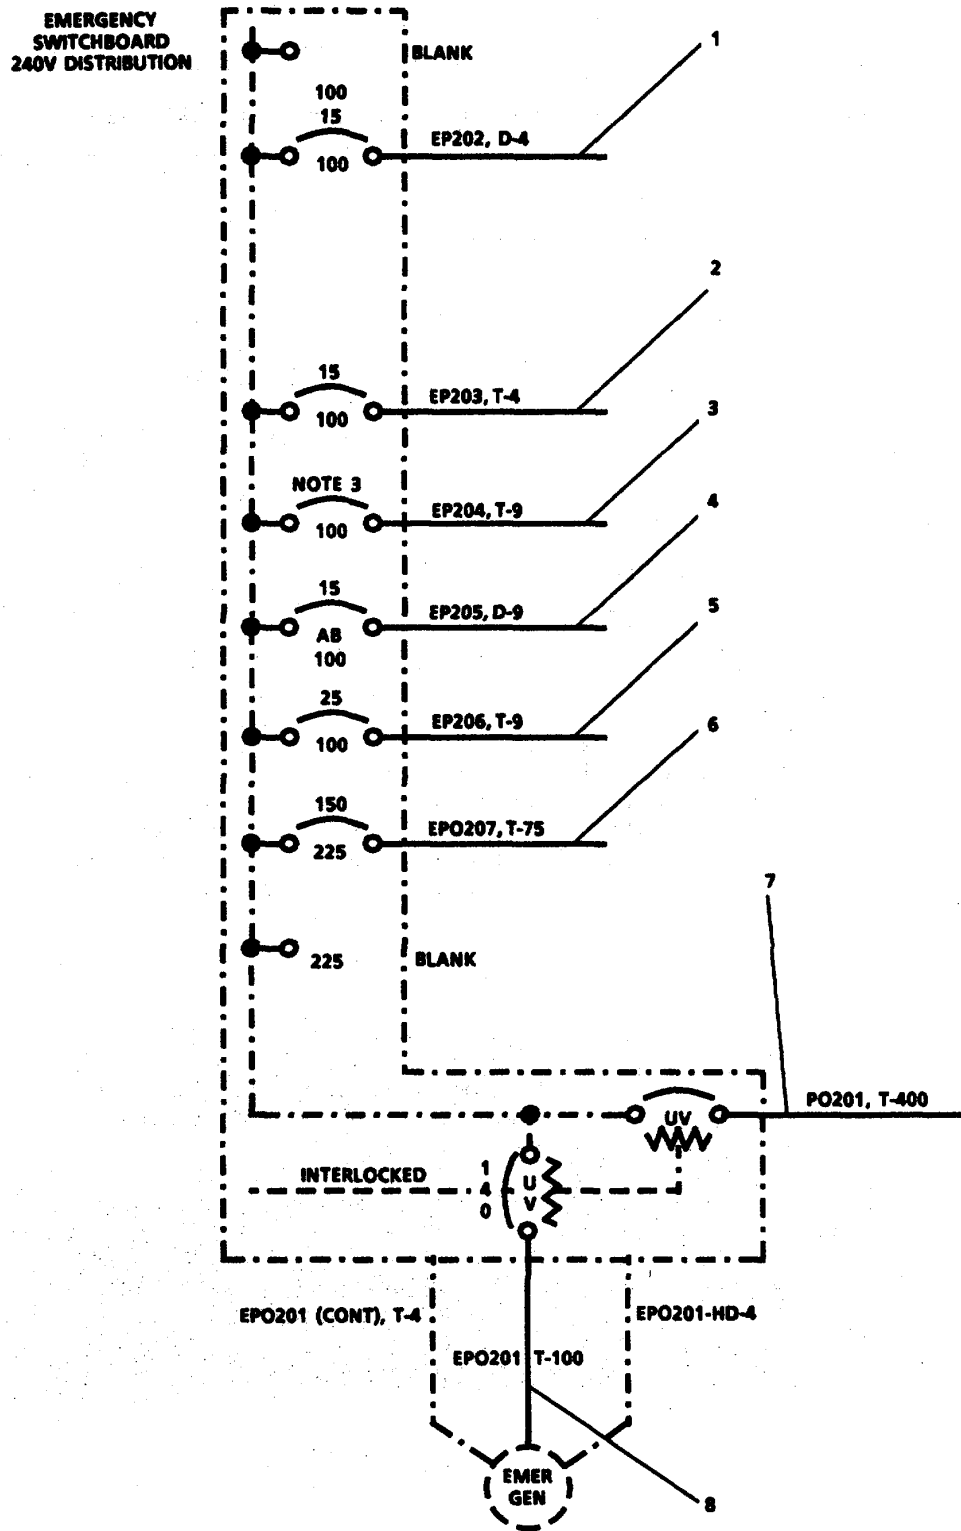

FIGURE 3-156. 240V Emergency Power Distribution.
**3-171. Repair 240V Emergency Power Distribution. (Figure 3-156)**